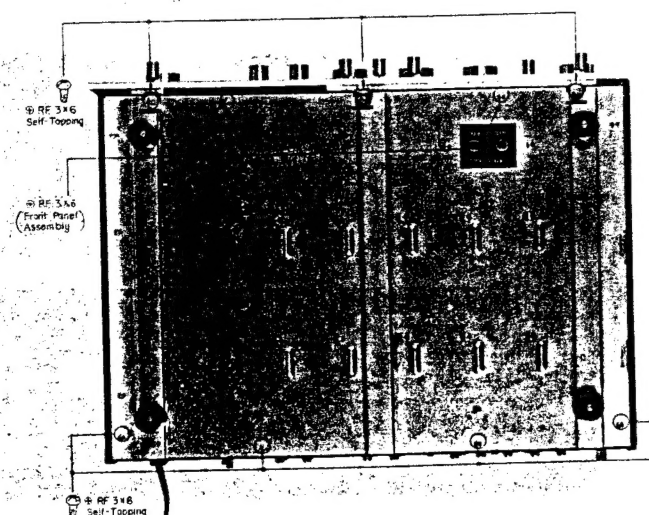

Fig. 2-3. Removal of Front-Panel Ass'y
- Turn the set over and remove the two self-tapping screws (+RF3 $\phi$   $\times$  6) from the front-bottom edge of the chassis. See Fig 2-3.
- Turn the set over and remove the three Phillips-Head screws (+RF3 $\phi$   $\times$  6) at the front-bottom edge of the chassis. See Fig. 2-3. This frees the Front Panel.